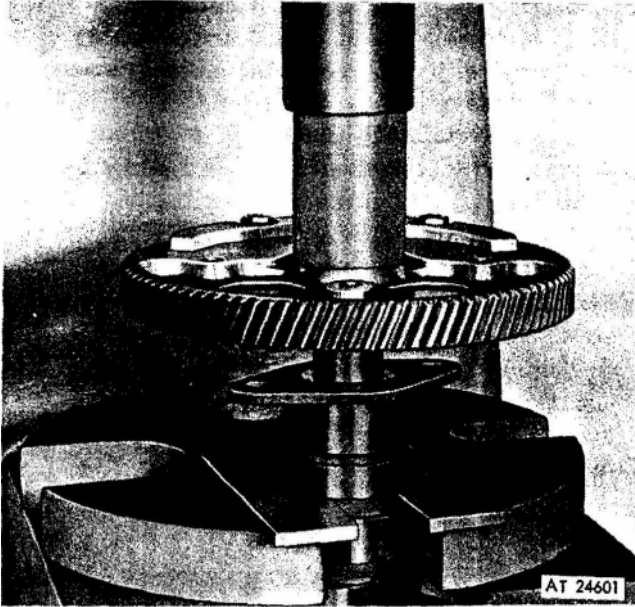

Figure 2. Installing camshaft gear.
5. Then, with the camshaft supported in an arbor press, place a sleeve on top of the gear and under the ram of the press. Bring the ram of the press down on the sleeve and press the gear tight against the spacer on the shaft (fig. 2).